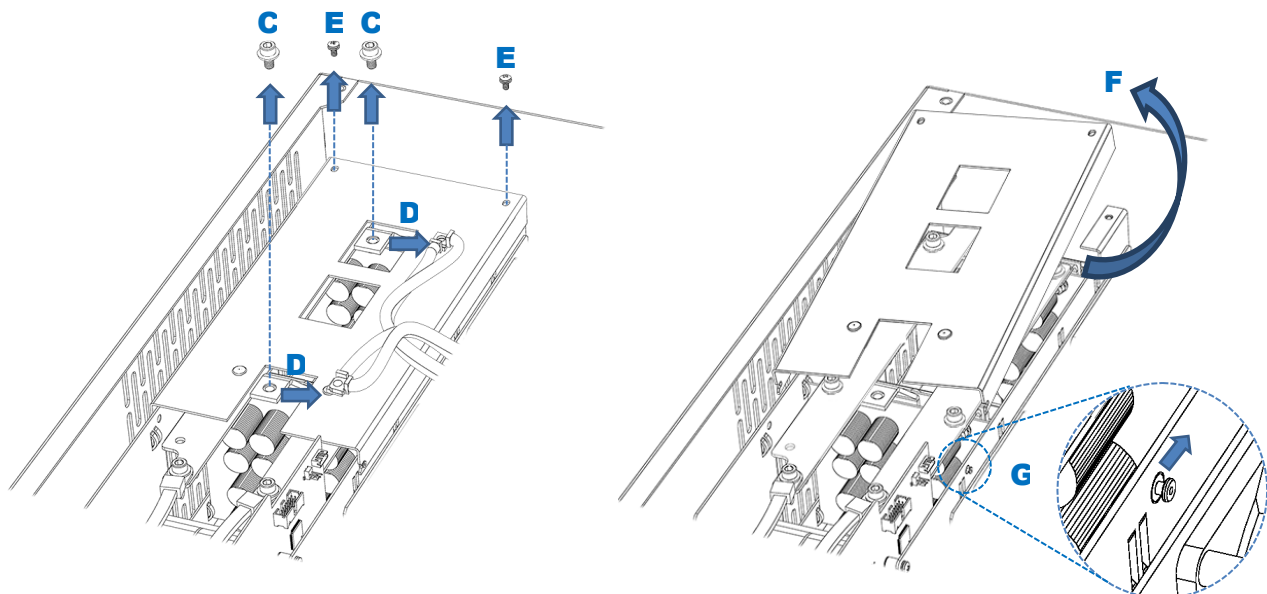

Figure 48 Power Module Cover
3. Using a 5 mm hex (Allen) wrench, remove bolts and washers for transformer cables. See **C** in Figure 48.
4. Remove transformer wires by bending them away from work area. See **D** in Figure 48. The voltage sense wires will be completely disconnected at this stage; set them aside.
5. Remove the cover for the power module cage. See Figure 48 for all items.
- Replace the cage cover by attaching the keyhole fastener **G** and lowering the cover into place **F**. Replace the cover screws **E**. See Figure 48 if necessary.
- Replace the transformer cables and hardware **C**. See Figure 48 if necessary. Ensure that the hardware is stacked in the following order.